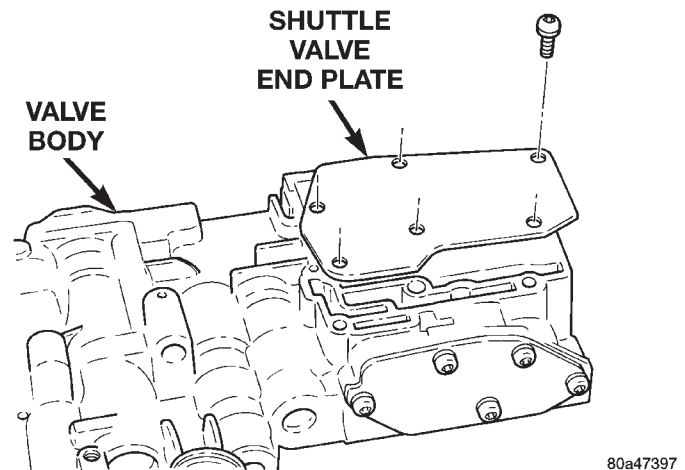

Fig. 59 Shuttle Valve End Plate
(20) Place shuttle valve end plate in position on valve body (Fig. 59).
(21) Install screws to attach shuttle valve end plate to valve body (Fig. 59).